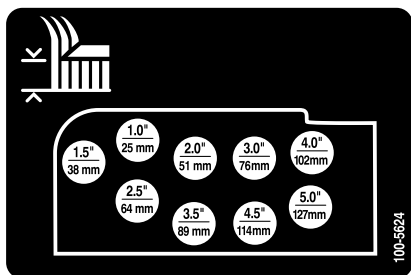

Figure 20
- Mount the height-of-cut chains to the desired height-of-cut hole with the clevis pin and hairpin cotter (Figure 20).